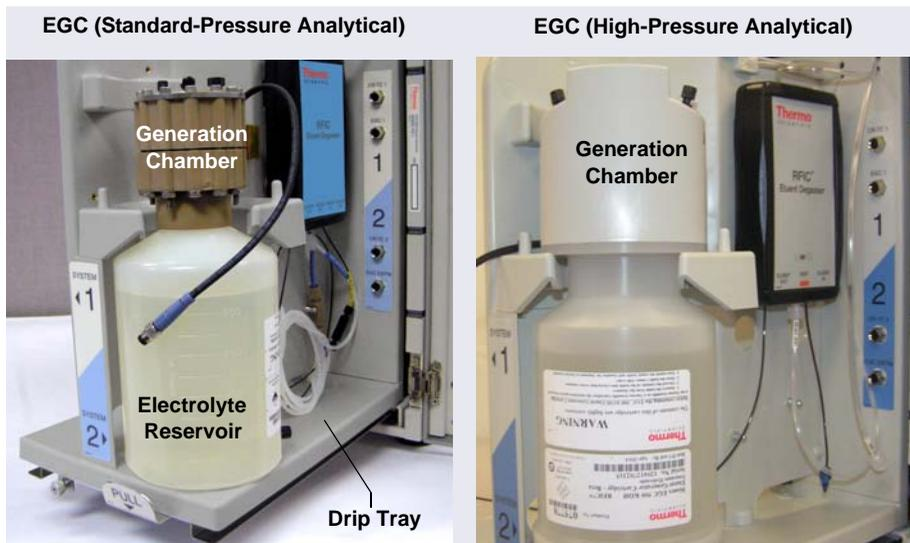

Figure 4-24. Dionex EGC Service Position
- Turn the Dionex EGC upside down and place it on the EG drip tray (see Figure 4-24). This is the “service position” for the cartridge.
4. Lift the Dionex EGC out of the holder, turn it upside down, and place it on the drip tray in the service position (see Figure 4-24).